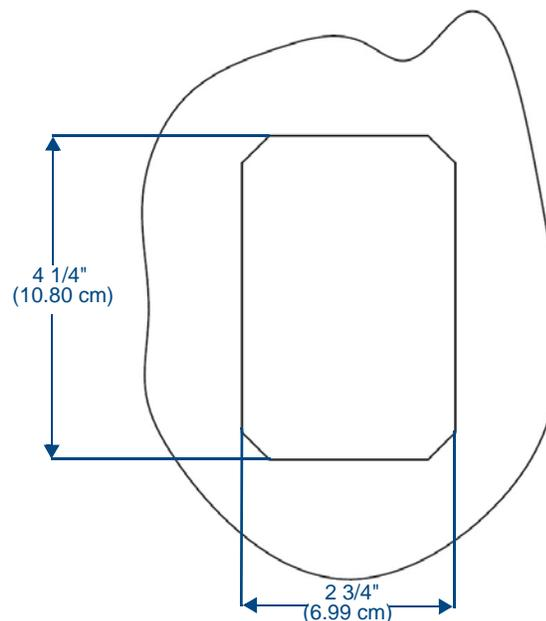

FIG. 43 MXD-430 Installation Template
2. For best results, use the MXD-430 Installation Template (**68-5968-05**) to ensure proper placement (FIG. 43). The template is marked on one side with directions for both landscape and portrait installations to ensure that the touch panel and Backbox are properly aligned.
- Remove the knockout on the bottom of the Backbox (FIG. 43) and thread the incoming wiring through the knockout hole.